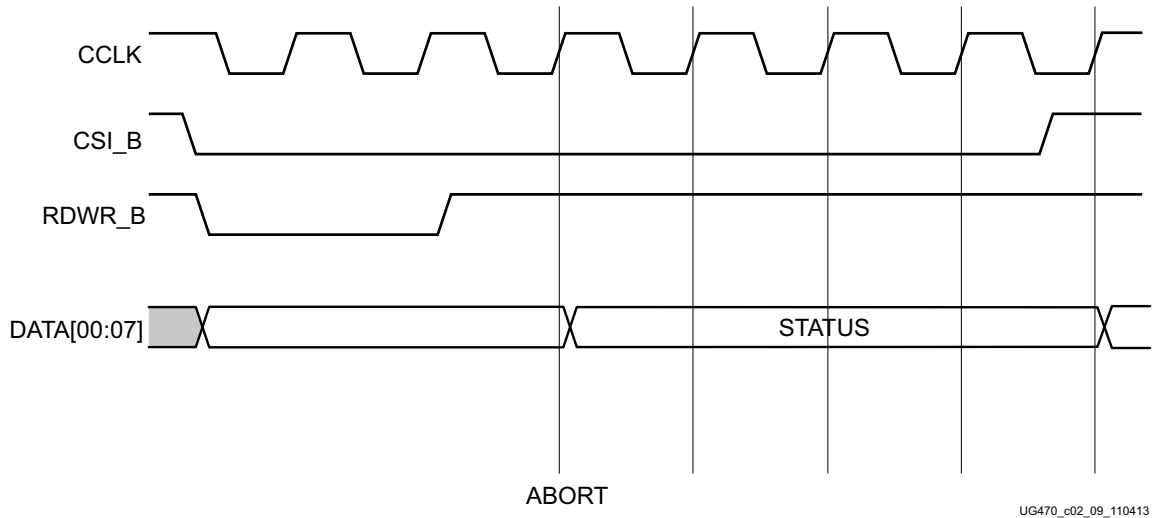

Figure 5-6: Configuration Abort Sequence for SelectMAP Modes
- The ABORT lasts for four clock cycles, and Status is updated. See Figure 5-6.